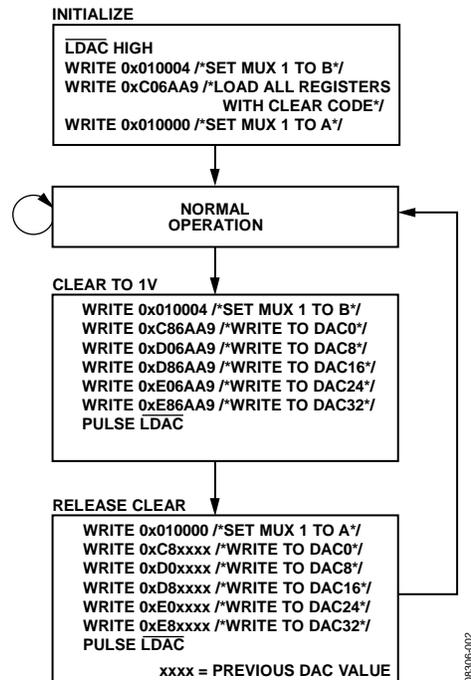

Figure 2. Clear Function Flowchart
This example assumes that outputs are to be cleared to 1 V; that the gain (M), offset trim (C), and offset DAC (OFSx) registers of the AD5370 are at their default values; and that a 3 V reference is being used. The flowchart in Figure 2 shows the procedure for initializing the AD5370, as well as the procedures for entering and exiting clear mode. Using this procedure, it is possible to set all 40 channels of the AD5370 to a predetermined value using far less than the 40 write operations that would normally be required.